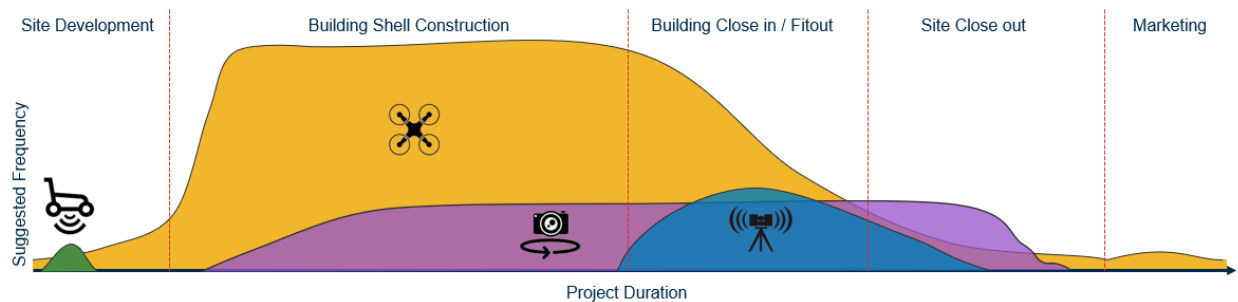

Figure 5-2: Typical reality capture use case.
*Figure 5-2* overlays the different reality capture tools that would likely be used throughout a new construction project. During site development, ground penetrating radar (GPR) creates an image map of underground or in-floor utilities. Throughout the entire project, drones can track progress from overhead, providing images to help with the eventual marketing of the building.